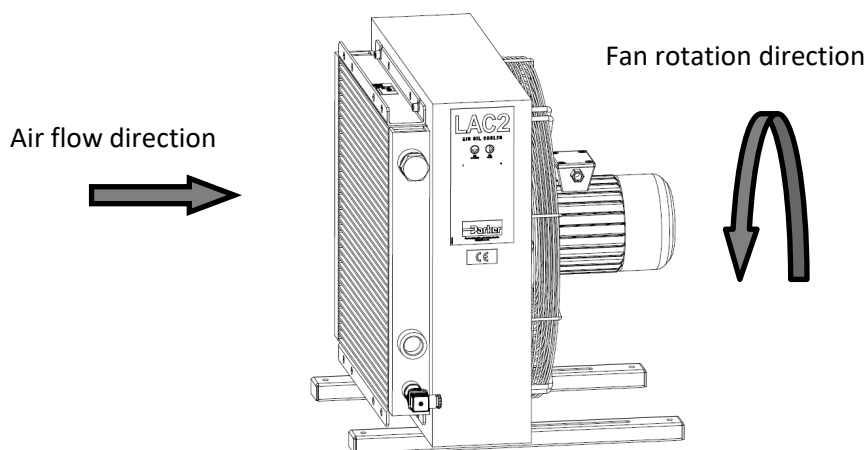

fig.18
6. In operation, check that when the fan is turned on, the direction of rotation and air flow match with the diagram in fig. 18